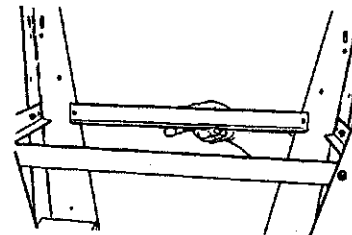

Fig.A-12
19. Repeat Steps 14 and 15 to install the other long leg brace (7) between a carriage-end leg and a headstock-end leg. See Fig.A-12.